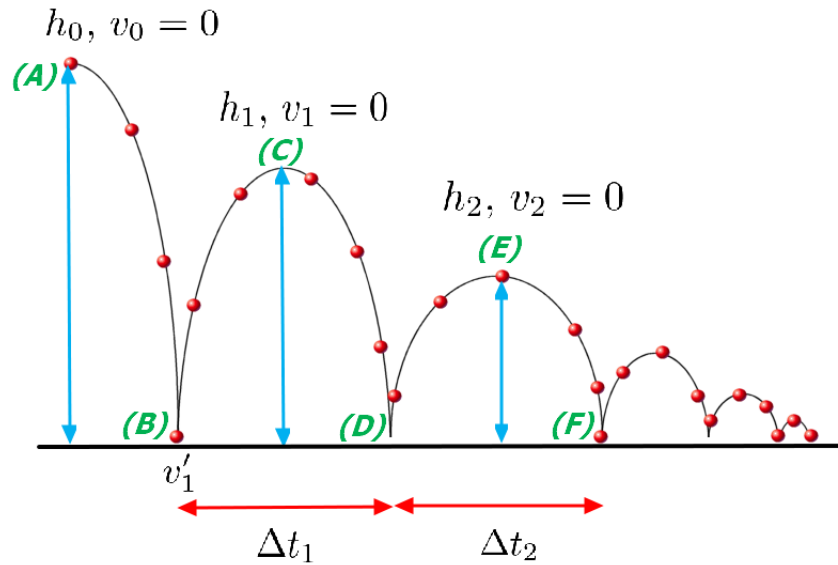

Figure 3.1: The bouncing ball in case where at each bounce, some energy is lost.
Let us consider the familiar situation of a ball released from a certain height h_0 and bouncing several times until it rests on the ground (Fig. 3.1). If mechanical energy was fully conserved
Let us take the heights after each bouncing h_1, h_2 as shown in Fig. 3.1. For the two configuration points (A) and (C), we can write from Eq. (3.9)
Note that this is a negative number since $h_1 < h_0$, hence the energy is lost. If we had h_1 , could have computed Q_1 . Since we do not have the means to measure it experimentally in our lab, we need to compute it using the data we have access to via experiment. That piece of data is Δt_1 which as can be seen from Fig. 3.1 is the time between the first time the ball hits the ground and the second time it does.